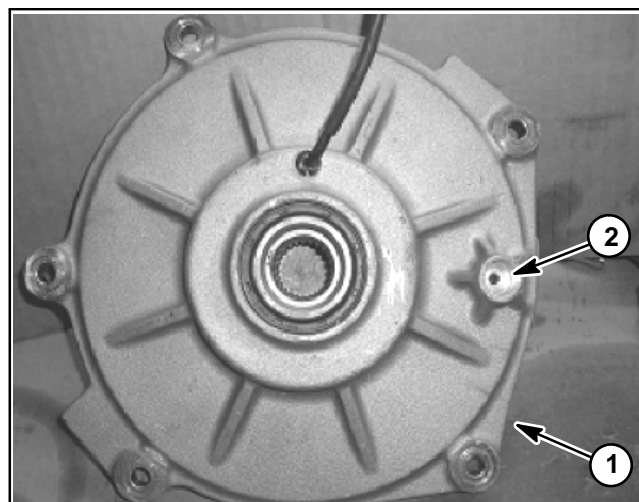

Figure 31
A. Locate backlash adjustment set screw inside round boss on cover plate (Fig. 31).
D. Continue to slowly turn the set screw counter-clockwise until the pinion shaft can freely rotate six (6) times (one revolution of the ring gear) without any tight spots. This proper backlash should be achieved after the set screw has been turned counter-clockwise from 1/4 to 1/2 of a turn.